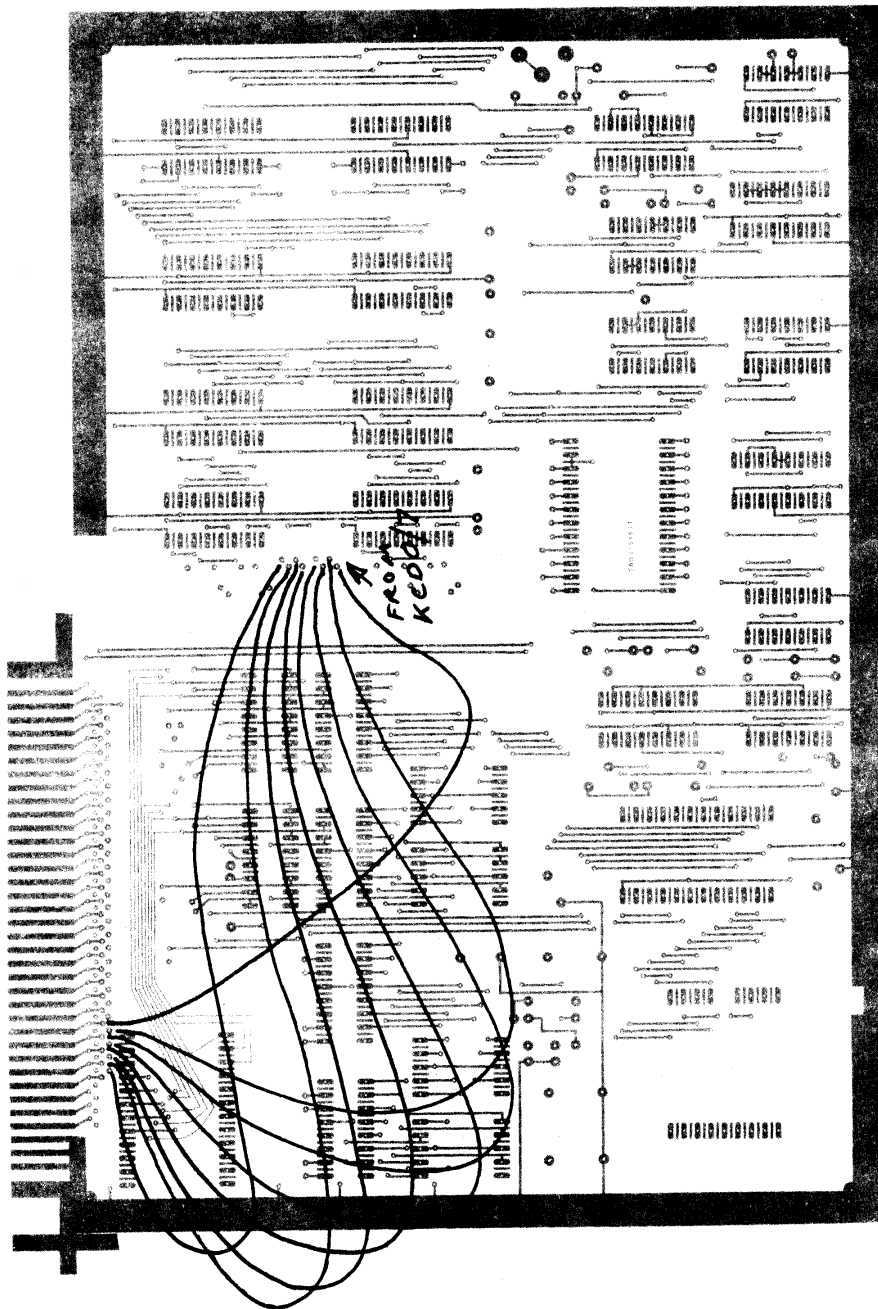

Figure 12. Input to Data Driver Bussing
- (.) Cut and prepare eight 7 inch lengths of wire. Connect as indicated in Figure 12.